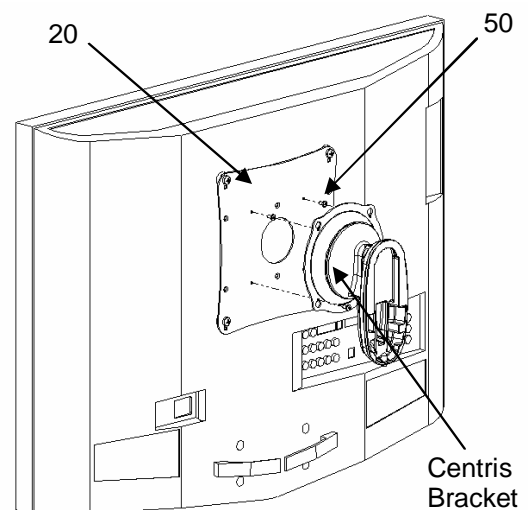

Figure 10. Mount Display to Centris Bracket
1. Start two M4 x 8mm Phillips pan head screws (50) into top mounting holes on VESA Plate (20). See Figure 10.
3. Install two remaining M4 x 8mm Phillips pan head screws (50) through bottom mounting holes of Centris bracket, and into VESA Plate (20).